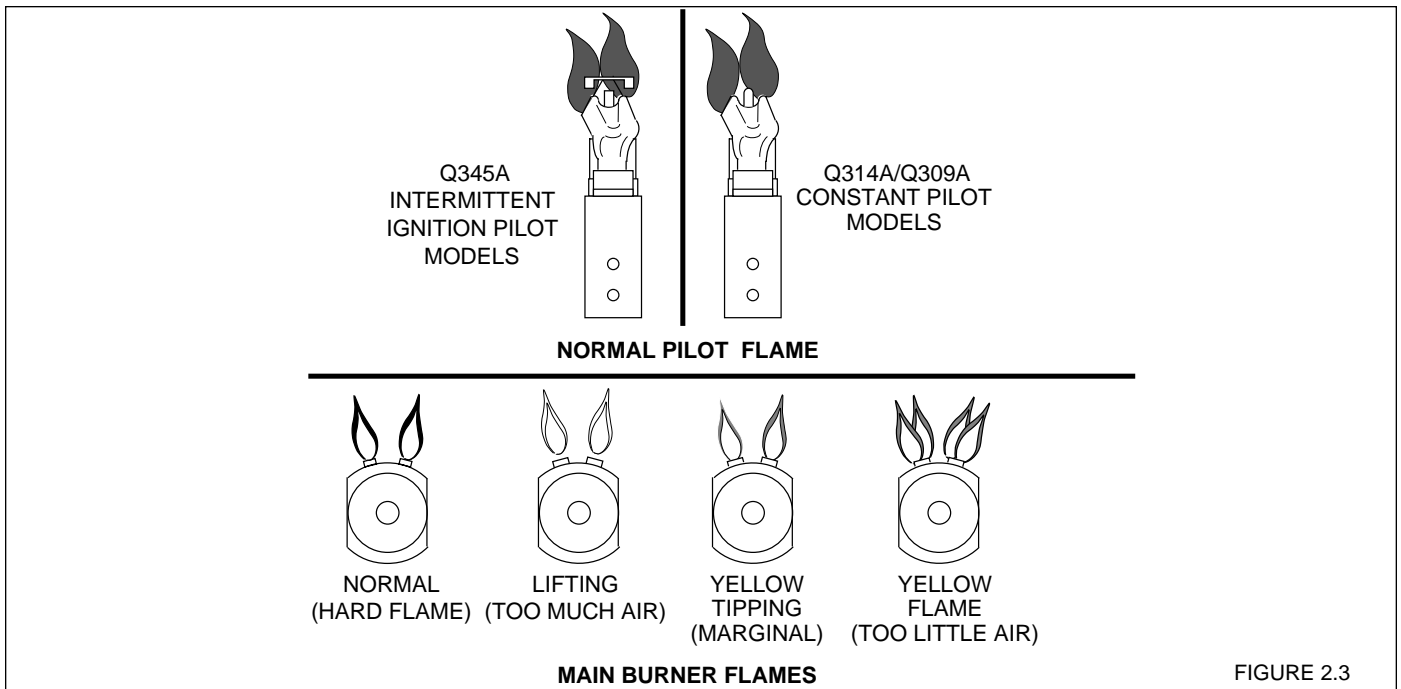

FIGURE 2.3
8. Observe pilot and main burner flame, see Figure 2.3. All burner ports should be ignited and burn with a steady blue flame.